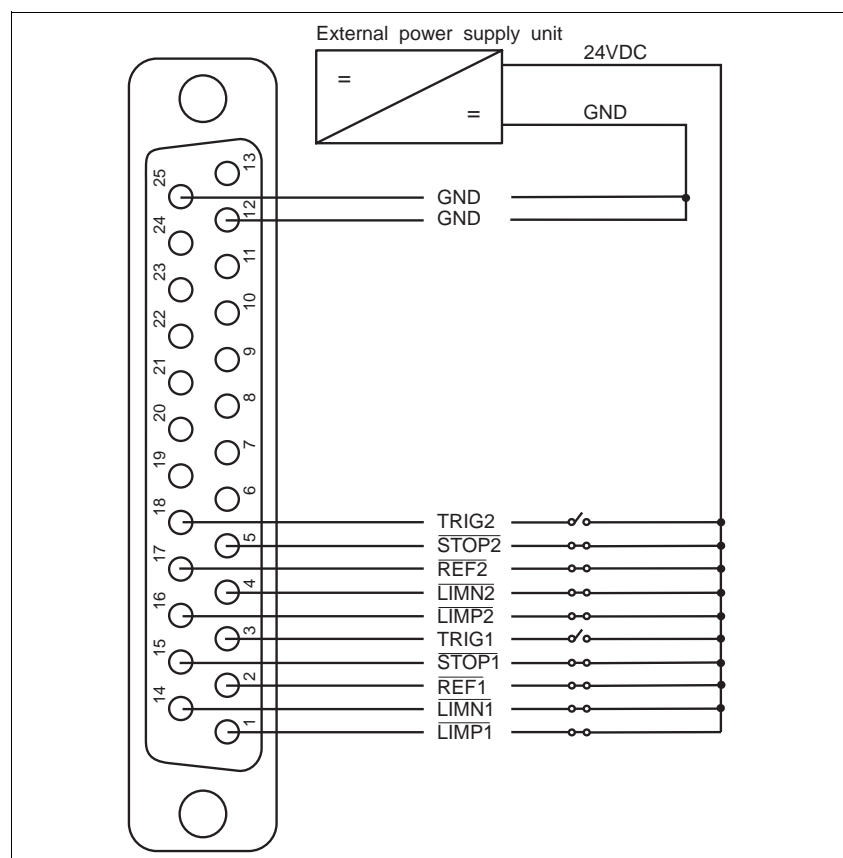

Fig. 2-7 Limit switch connector – device end
1. Solder the litz wires to the connector as illustrated in fig. 2-7.
3. Insert two hexagon head screws into the connector shell (fig. 2-7).